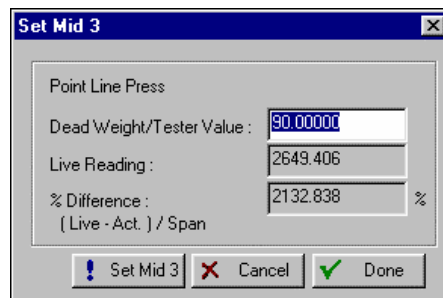

Figure 8-8. Set Midpoint 3
19. When the Live Reading is stable, click **Set Mid 2** to calibrate this reading. The display advances to the Set Midpoint 3 window, as in Figure 8-8.